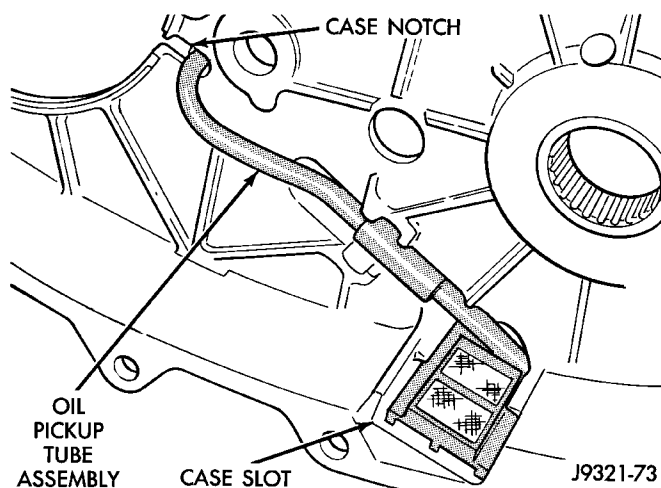

Fig. 67 Oil Pickup Tube Installation
(8) Install oil pickup tube in rear case. Be sure tube is seated in case notch as shown (Fig. 67).